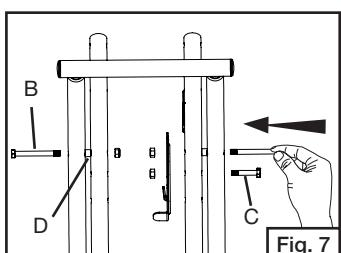

Fig. 7
- Interlock the towing handle and the grill stand with pivot bolts, spacers, latch bracket and nuts. (Fig. 7)